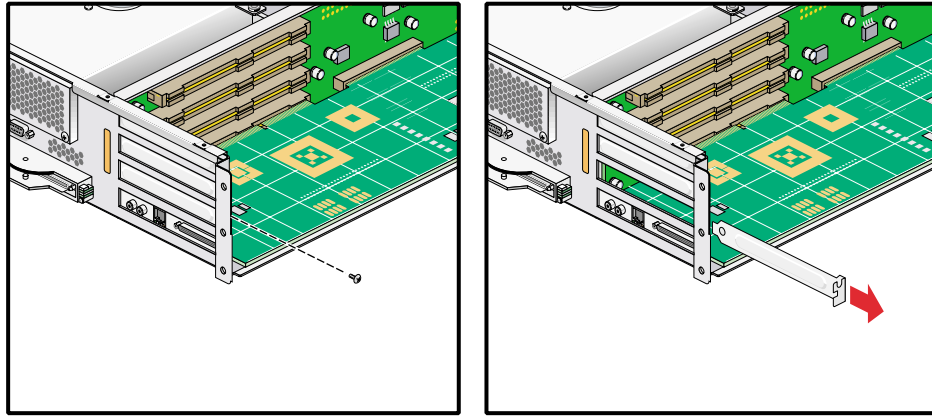

Figure 6-5 Removing Blanking Plate
9. If a blanking plate covers the slot that is needed for the installation, remove the retaining screw, as shown in Figure 6-5, and the blanking plate.